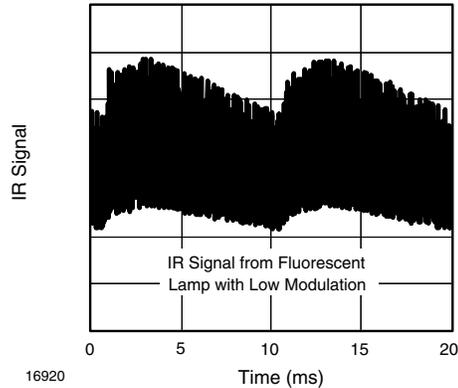

Fig. 13 - IR Signal from Fluorescent Lamp with Low Modulation
- Strongly or weakly modulated noise from fluorescent lamps with electronic ballasts (see figure 13 or figure 14)